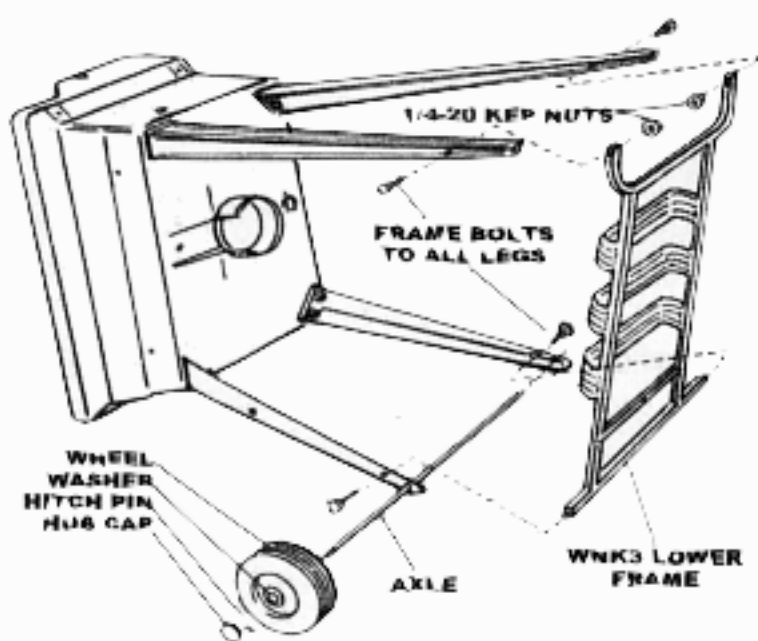

Fig. 3
1. Bolt shelf to the (4) legs as follow:
- (A) WCP and WCN (Fig. 3) carts uses (2) 1/4-20x 1-1/2" slotted bolts and Kep nuts to fasten the frame to the long legs and (2) 1/4-20x3/4" slotted head bolts to fasten the frame to the short legs.
Step 3: WNK4 Lower Shelf Assembly (Fig. 3)